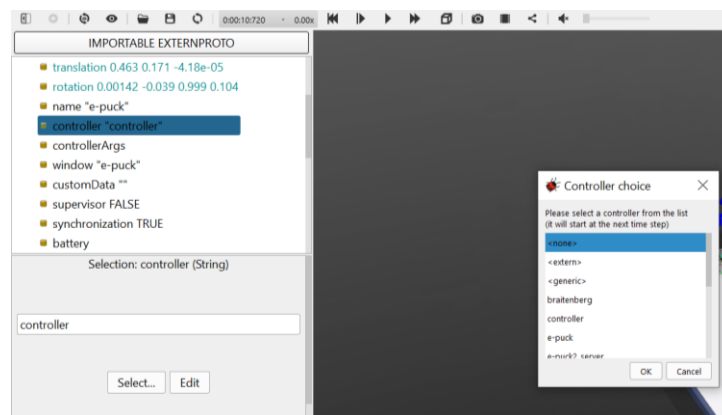

Figure 7
2. Webots comes with a number of controller examples you can study and learn from. They can be selected by clicking first on the “controller” field under “e-puck” under the scene tree, then click on “Select” from the below section as shown in Figure 7